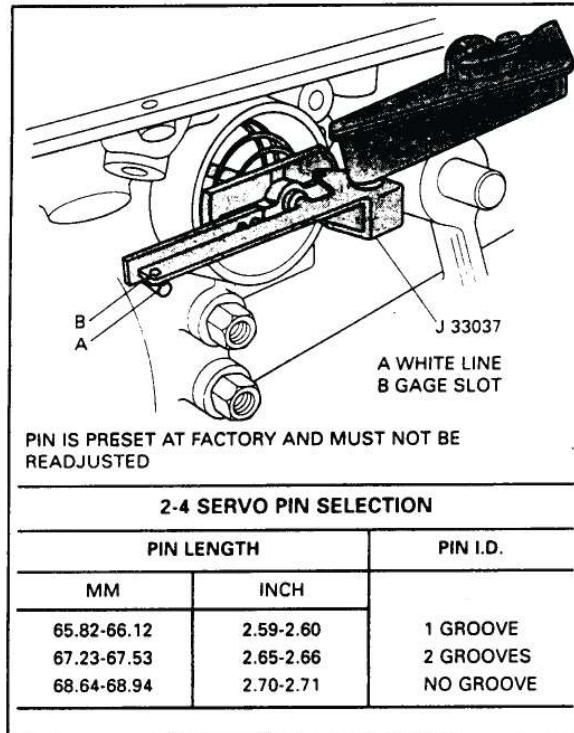

Figure 201
1. Install servo tool J-33037, as shown in Figure 201, with the servo pin you are going to install.
3. Apply 98 in.lbs. torque, with torque wrench, as shown in Figure 201.
4. If white line "A" appears in the gage slot "B", pin length is correct (See Figure 201).
5. Use the pin selection chart in Figure 201 to determine the correct pin length if a new pin is needed.